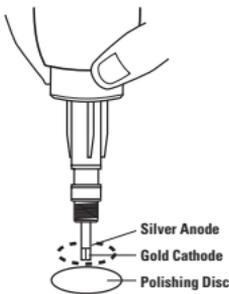

Figure 4
- 4a. If the cathode appears to have a dull finish, clean it with a polishing disk (see **Figure 4**). Follow the procedure in step 4b. If the cathode has a bright finish, rinse it with distilled water, blot dry with a lint-free tissue and proceed to step 5.